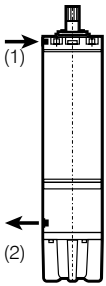

Fig. 1B
5.2 Position the motor vertically. Complete the missing water from the (1) screw of filling hole. Wait around 2-3 minutes. So there will be no air left into the motor. If there is still some water missing, fill it completely again and close the screw. (Fig. 1B)